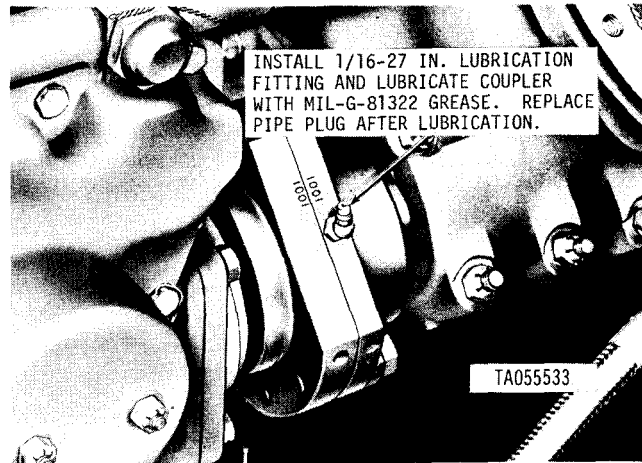

Figure 2-55. Removing fuel injection pump drive coupling with lubrication fitting installed.
(10) Install 1/16-27 lubrication fitting and lubricate coupling with MIL-G-81322 grease. Discontinue adding lubrication when grease shows in the hole on opposite side of coupling. Over filling cavity will result in failure of coupling seals. Remove lubrication fitting. Install the pipe plugs (fig. 2-55).